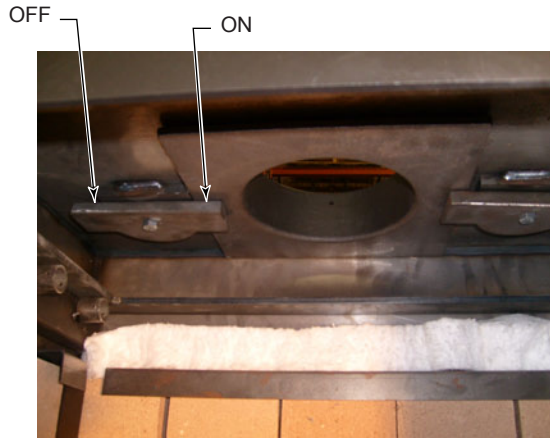
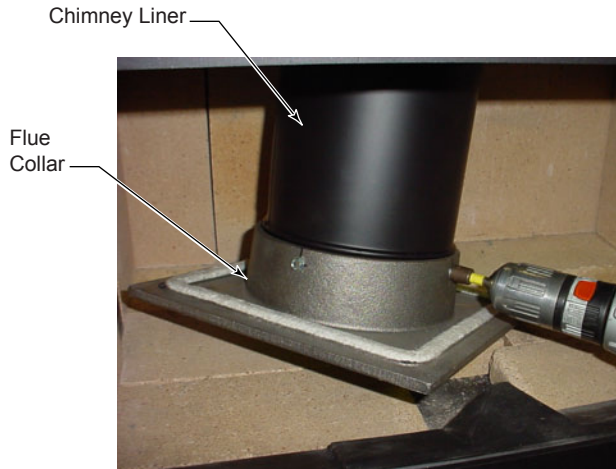

Figure 14
Figure 15
5. The flue collar has two rotating cam locks that will require the use of a hammer to unlock and lock. *Figure 14* shows the direction the cams need to turn to lock and unlock. The flue collar is made of cast iron and is fairly heavy so you should use something such as a piece of wood to support it. Once the flue collar has been lowered into the firebox you can lower the chimney liner into the collar and fasten it with screws. *Figure 15.* When putting the flue collar with the liner back in place, make sure the ceramic gasket is in place. Use only high temp ceramic fiber gaskets available at your MHSC dealer. **NOTE: The flue collar has one side about 1/2" shorter than the other three. This shorter side must be installed toward the rear of the firebox.** Raise the flue collar chimney assembly and support it in place. Carefully hammer the cam locks over the flue collar alternating from one side to the other until they are parallel to the back of the insert.